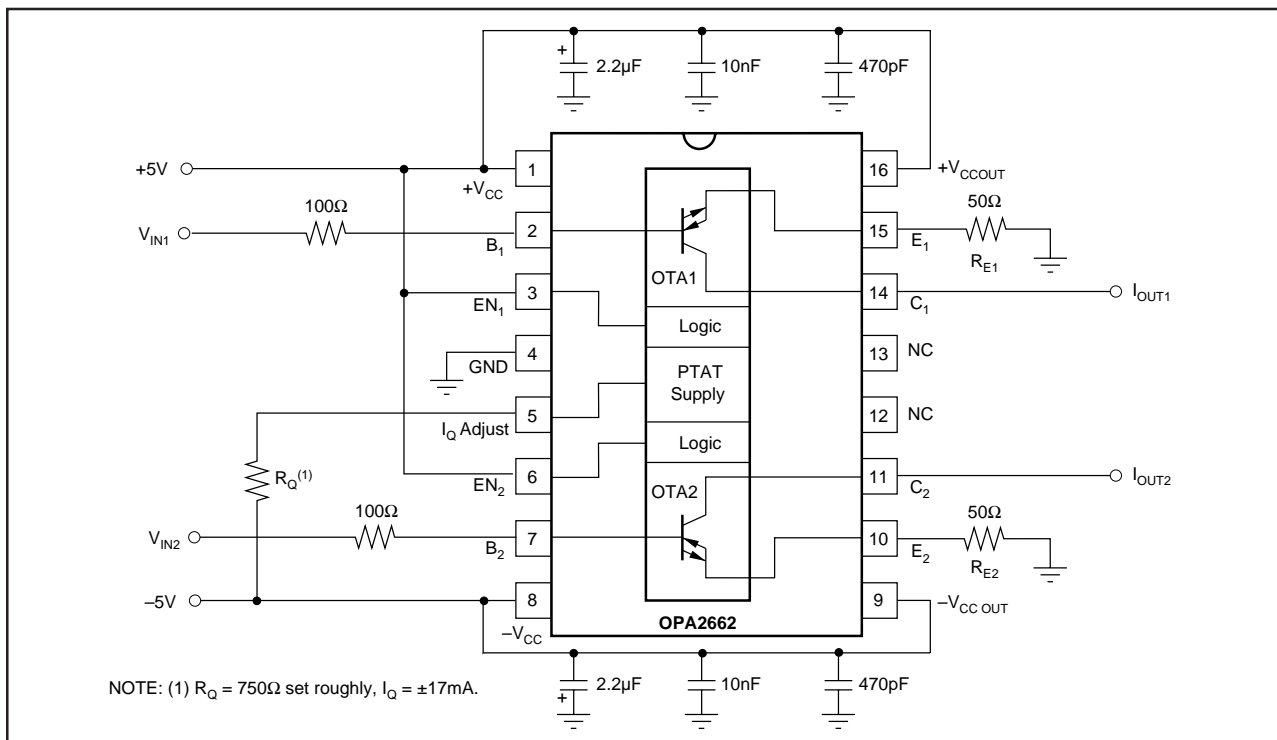

FIGURE 6. Basic Connections.
Shown in Figure 6 are the basic connections for the OPA2662's standard operation. Most of these connections are not shown in subsequent circuit diagrams for better clarification. Power supply bypass capacitors should be located as close as possible to the device pins. Solid tantalum capacitors are generally the better choice. For further details see the "Circuit Layout" section.
200ns at full output power ($I_{OUT} = \pm 75\text{mA}$). This enable feature allows multiplexing and demultiplexing, or a shut-down mode, when the device is not in use. If the EN-input is connected to ground or a digital "Low" is applied to it, the collector (C) and emitter (E) pins are switched in the high-impedance mode. When the EN-input is connected to +5V (+V_{CC}) or a digital "High" is applied to it, the corresponding OTA operates at the adjusted quiescent current. The initial setting for the enable pins is that they are connected to the positive supply as shown in Figure 6.